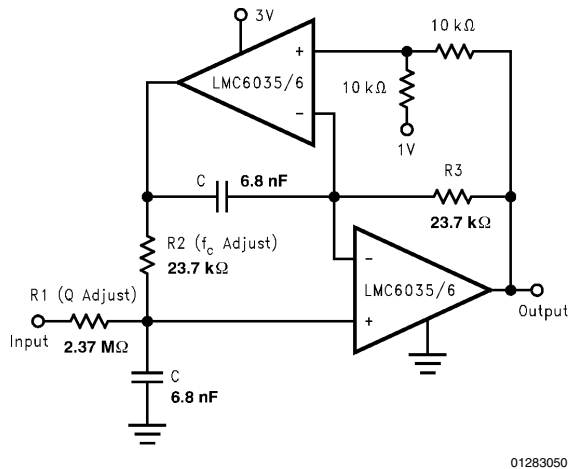

FIGURE 7. 2 Pole, 1kHz Active, Bandpass Filter
The dual amplifier bandpass (DABP) filter features the ability to independently adjust f_c and Q. In most other bandpass topologies, the f_c and Q adjustments interact with each other. The DABP filter also offers both low sensitivity to component values and high Qs. The following application of *Figure 7*, provides a 1kHz center frequency and a Q of 100.
1. First choose a center frequency (f_c). *Figure 7* represents component values that were obtained from the following computation for a center frequency of 1kHz. $R2 = R3 = 1/(2\pi f_c C)$ Given: $f_c = 1\text{kHz}$ and $C_{(\text{chosen})} = 6.8\text{nF}$